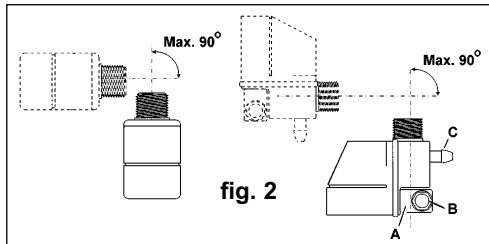

fig. 2
- 3.1.1. Remove securing screw and lift off terminal cover and terminal block (fig.2.A), note seal.
- 3.1.5. Ensure cable outer insulation has passed through the gland seal and then tighten gland (fig.2.B) to grip and seal cable.
- 3.2.2. If remote mounting ensure that valve is below discharge point and that the pipe run will allow air bubbles to flow up from valve to system. Connecting pipe should be of 3/8" bore, or larger. Orientate the valve within the limits shown in fig.2.
- 3.2.3. The outlet (fig.2.C) should be connected to a condensate drain using 8 - 10 mm bore flexible tube.